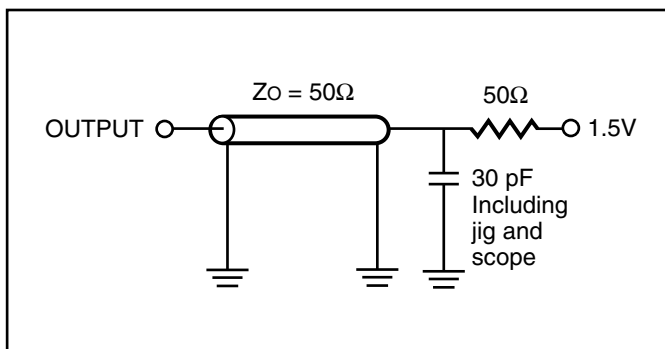

Figure 1.
1. Test conditions assume signal transition times of 5 ns or less, timing reference levels of 0.9V/1.5V, input pulse levels of 0.4 to  $V_{DD}-0.2V/0.4V$  to  $V_{DD}-0.3V$  and output loading specified in Figure 1.
1. Test conditions assume signal transition times of 5 ns or less, timing reference levels of 0.9V/1.5V, input pulse levels of 0.4 to VDD-0.2V/0.4V to VDD-0.3V and output loading specified in Figure 1.